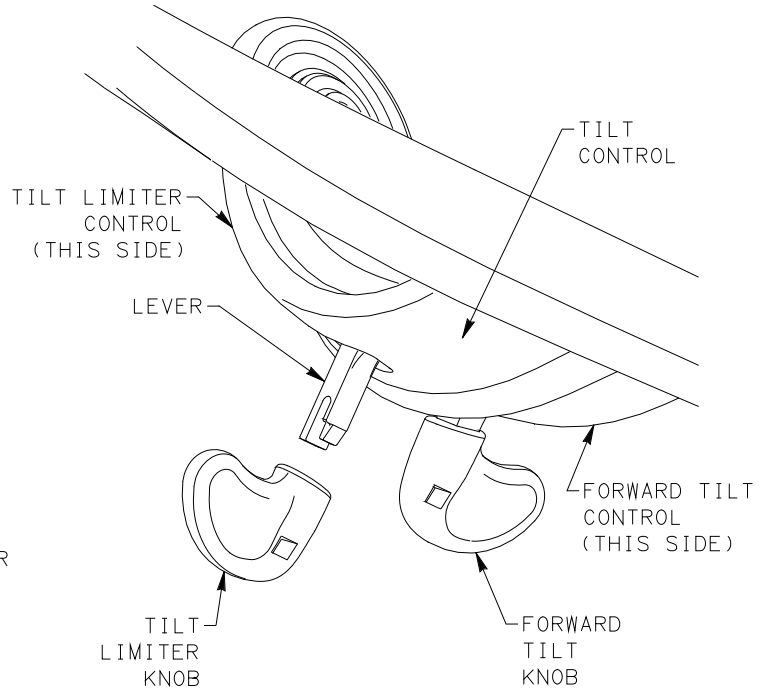

FIGURE 16
15. PUSH APPROPRIATE REPLACEMENT CONTROL KNOB(S) ONTO APPROPRIATE LEVER(S) OF TILT CONTROL UNTIL "CLICK" IS HEARD, INDICATING KNOB HAS LOCKED IN PLACE. SEE FIGURE 16.